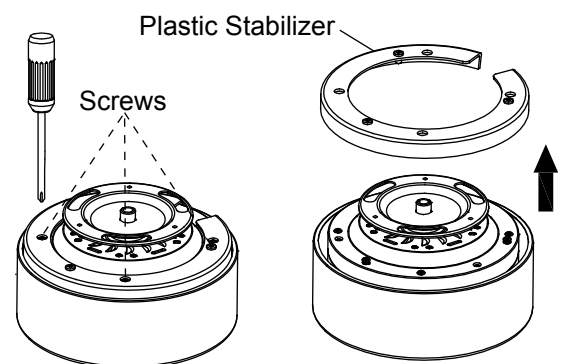

Fig. 7
Step 5. Remove and discard the three screws securing the plastic stabilizer on the bottom of motor housing. Remove and discard the plastic stabilizer. (Fig. 7)